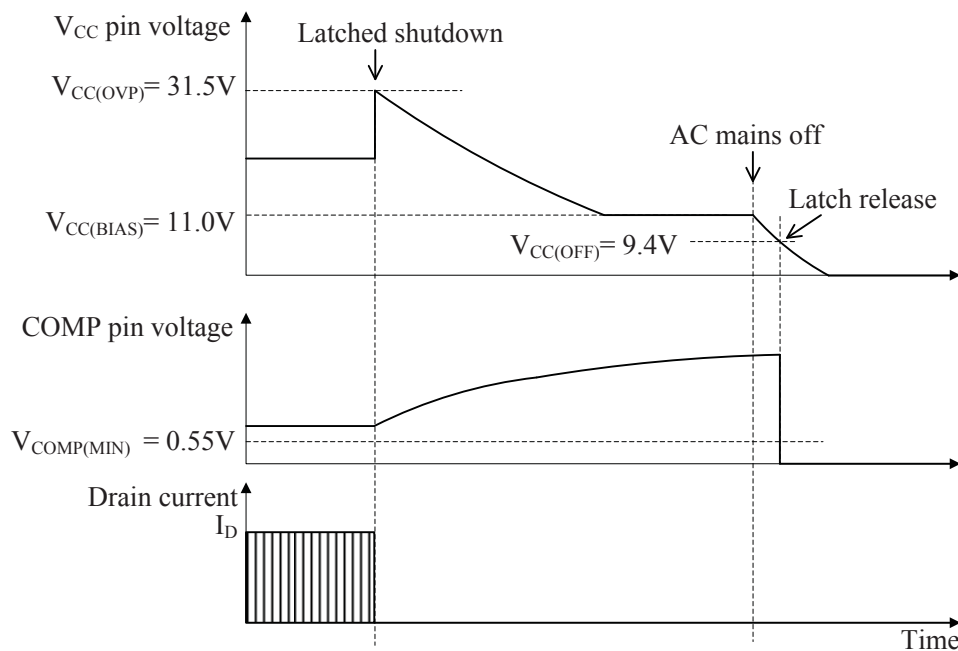

Figure 19. Waveforms when VCC pin OVP function is being activated
• VCC Pin Overvoltage Protection. Figure 19 shows the waveforms of the OVP function on the VCC pin. When the VCC pin voltage with reference to the S/GND pin reaches  $V_{CC(OVP)} = 31.5\text{ V}$  or more, OVP is activated and the IC stops switching operation in latch mode.